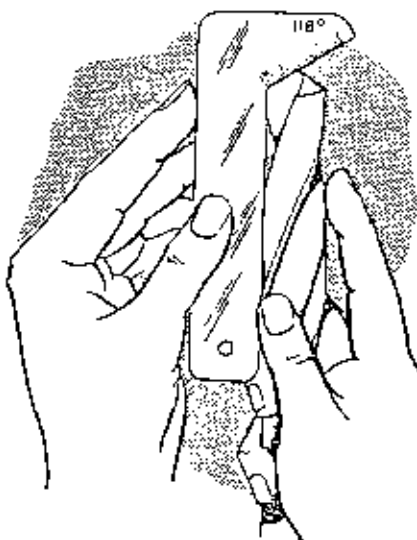
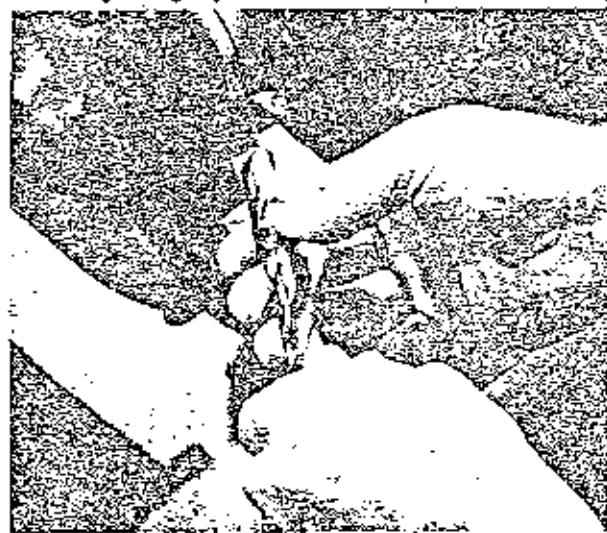

Figure 2-5-22.—Checking the drill point angle and cutting edge.
Figure 2-5-24.—Grinding a twist drill with a grinder.
Figure 2-5-22 shows a drill being checked during grinding. The drill-point gage is being held against the body of the drill and has been brought down to where the graduated edge of the gage is in contact with one cutting edge. In this
Figure 2-5-24 is an actual photograph, side view, of the same drill position which is shown in figure 2-5-23A.
drill in figure 2-5-25 is compared to the initial position in figure 2-5-24. All three motions taking place at the same time combine to produce the important requirements mentioned before (1) equal and correctly sized drill-point angles (2) equal-length cutting lips, (3) correct clearance behind the cutting lips, and (4) correct chisel-edge angle. Checking by means of a drill-point gage, figure 2-5-22, and by inspection will show when these four requirements have been met.